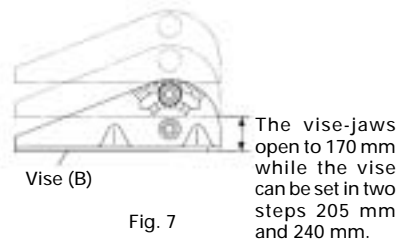

Fig. 7
3. Moving the stationary vise-jaw (Fig. 7)